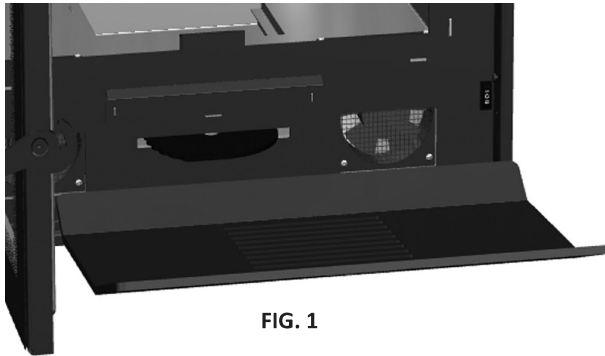

FIG. 1
1. Remove the deflector unit, the sides and the bottom section. Pay attention to vermiculite parts; they can break. (Fig. 1)